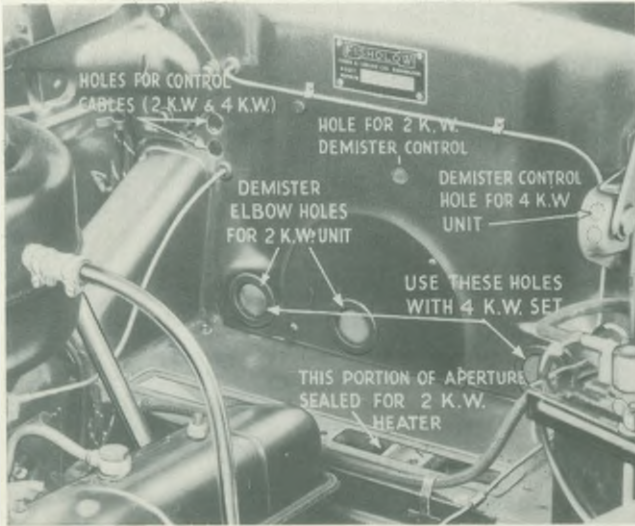

Fig. 34. Showing Bulkhead with Aperture for Heater uncovered
4. Remove the rubber grommets sealing off the holes provided for the mounting of the blower and heater units as applicable to the size of heater which is to be fitted. Similarly deal with the grommets sealing the heater for the demister elbows and the three control cables. Replace the sealing grommets in the case of the demister apertures by those supplied for fitting purposes. (See Fig. 34.)